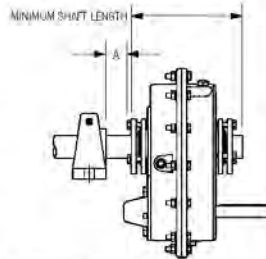

Figure 5 – Minimum Recommended Dimensions
1. One bushing assembly is required to mount the reducer on the driven shaft. An assembly consists of two tapered bushings, bushing screws and washers, two bushing backup plates and retaining rings, and necessary shaft key or keys. The driven shaft must extend through the full length of the reducer. If the driven shaft does not extend through the reducer do not use the standard tapered bushings; instead use the short shaft bushings as described in the Short Shaft Bushings section that follows. The minimum shaft length, as measured from the end of the shaft to the outer edge of the bushing flange (Figure 5), is given in Table 1.
1. One bushing assembly is required to mount the reducer on the driven shaft. An assembly consists of one long tapered bushing, one short tapered bushing, one tapered bushing wedge, bushing screws and washers, two bushing backup plates and retaining rings, and necessary shaft key or keys. The driven shaft does not need to extend through the reducer for the short shaft bushing to operate properly. The minimum shaft length, as measured from the end of the shaft to the outer edge of the bushing flange (Figure 5), is given in Table 1.
3. Install the tapered bushing wedge into the hollow bore of the reducer from the same side as the long bushing will be installed. When installing the tapered bushing wedge into the reducer hub, install the flange end first so that the thin taper is pointing outwards towards the long bushing as shown in Figure 5. The wedge is properly installed when it snaps into place in the reducer hub.